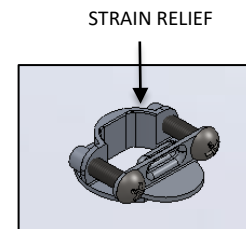

FIG. 6 - STRAIN RELIEF
- c. STRAIN RELIEF (as shown in FIG. 6)